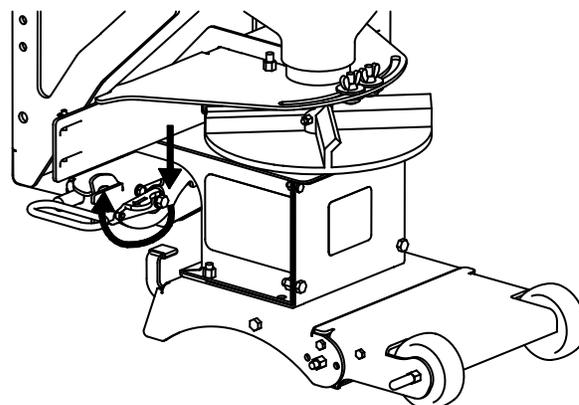

Figure 11. Lever Rotation G10393
2. Loosen Ratchet Straps (5).
3. Loosen Stabilizer Arms (3) & (4).
5. Rotate the release lever clockwise to the "OFF" position, refer to Figure 11.